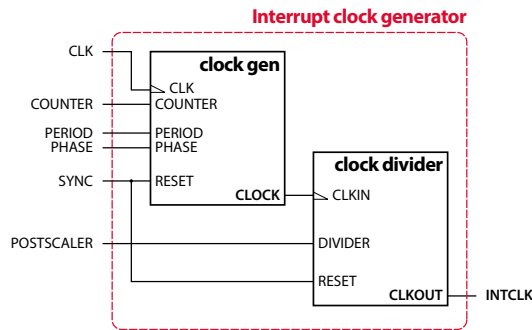

Fig. 31. Block diagram of an interrupt clock generator.
- » 3 interrupt clock generators (int clk gen) provide clocks to drive the two DSP external *interrupt sources* XINT1 and XINT2, as well as the ADC *sampling clock* SCLK. These are connected to the INTCLK output of each interrupt clock generator, as shown in Fig. 31 :